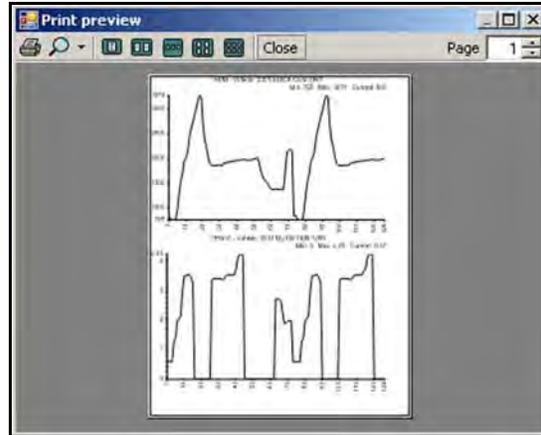

Figure 4-16 Sample print preview window
- b. If Graph(s) Print Preview was selected, a preview window opens. Click on the printer icon (Figure 4-16) to send the file to the printer.